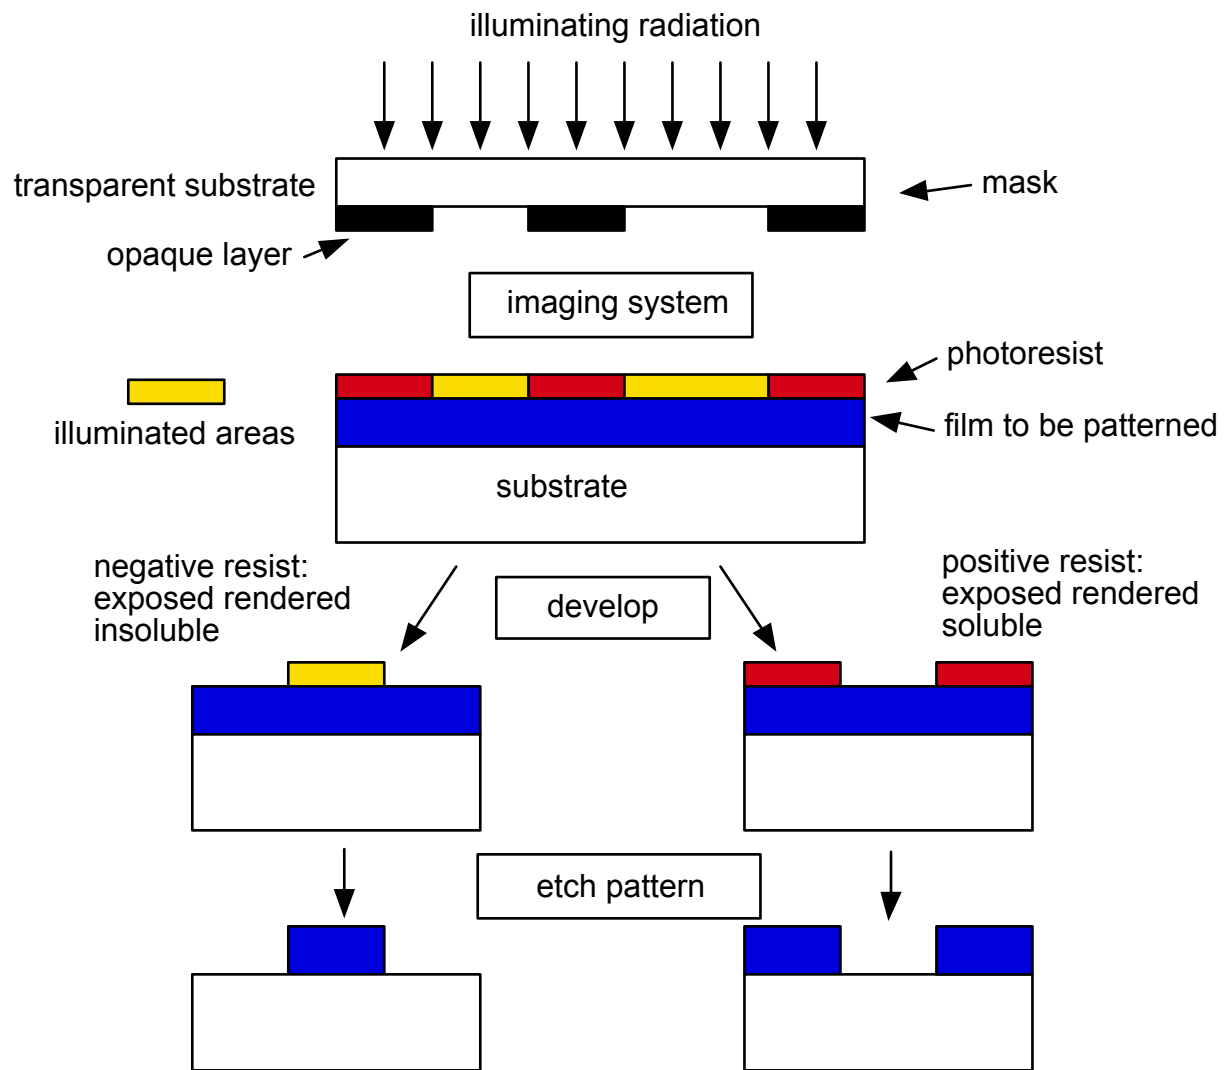

Figure 34: Basic lithographic process (adapted from Introduction to Microlithography, Thompson et al)
The fabrication of planar semiconductor devices and integrated circuits requires the formation of patterns on the surface of the circuit substrate. The process most commonly used to form these patterns is called photolithography. This technique uses a thin, photosensitive organic film, called photoresist, to transfer the pattern from a master mask to the IC substrate. Figure 34 illustrates the photolithographic process for two basic kinds of resist material, positive photoresist and negative photoresist. In this example the ultimate objective of the process step is the formation of openings to the silicon surface through a SiO₂ film, which could then serve as either a diffusion mask or a contact pattern. To begin the process the wafer is cleaned and dried, and the photoresist (PR) is applied. The PR is supplied in a viscous liquid form; it can easily be formed into a very thin (about 1 μm) and uniform layer by spinning a liquid-coated substrate at high speed. During the spin most of the solvents in the resist evaporate, but after spinning a pre-bake is performed to further dry and harden the film. As shown in the top segment of Fig. 1, the resist is exposed through a mask with the desired pattern on it. For a negative PR, the exposed areas are rendered insoluble by exposure to light. When immersed in a developer solution the unexposed regions are dissolved, leaving exposed regions covered by the resist. For a positive PR, the exposed regions are rendered soluble by exposure to light, and so after development only areas unexposed are still covered by resist. The resulting patterned substrate must then be placed in an etch (in this example, buffered HF), for which the resist serves as an etch mask. In this OP we are concerned with the application and development of the photoresist.